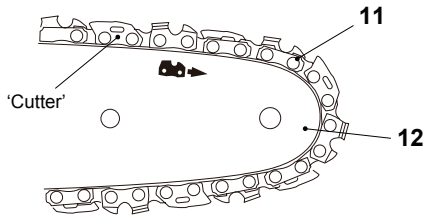

Fig. 2
3. Spread the saw chain (11) out with the cutting edges of the chain pointing in the direction of rotation. Slide the saw chain (11) into the groove around the guide bar (12). Ensure saw chain (11) is installed in correct direction of rotation (Fig. 2).